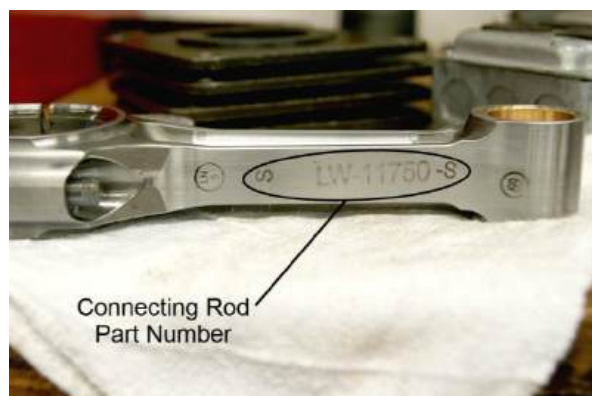

Figure 11
- (5) Record the results of the “Connecting Rod Bushing Press-Out Verification Procedure” and the part number (Figure 11), lot number, and serial number (Figure 12) of each connecting rod on Lycoming Engines’ online survey at www.lycoming.com/SB632.
- (1) Order new parts as necessary. Refer to the “Parts Required Table” in the Parts Required for Reassembly section of this Service Bulletin.
- (2) Reinstall the piston, piston pin, piston pin plugs, and cylinder per instructions in the applicable Lycoming Engines’ manual using new seals and gaskets identified in the Top Overhaul Gasket Kit in this Service Bulletin. Use new hardware where specified in this Service Bulletin.
- (3) Record the results of the “Connecting Rod Bushing Press-Out Verification Procedure” and the part number (Figure 11), lot number, and serial number (Figure 12) of each connecting rod on Lycoming Engines’ online survey at www.lycoming.com/SB632.